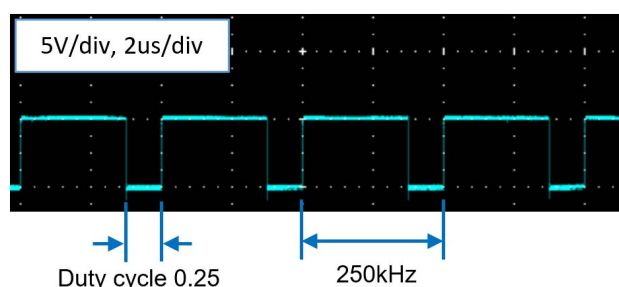

Figure 16. Vgs Voltage Waveform
3. Turn on the auxiliary power supply and adjust the output voltage to DC9V or DC12V. The Vgs voltage waveform of the low-side GaN FET Q2 is shown in Figure 16.